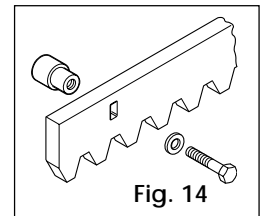

Fig. 14
**4.4.1. WELD-ON STEEL RACK (Fig.14)**